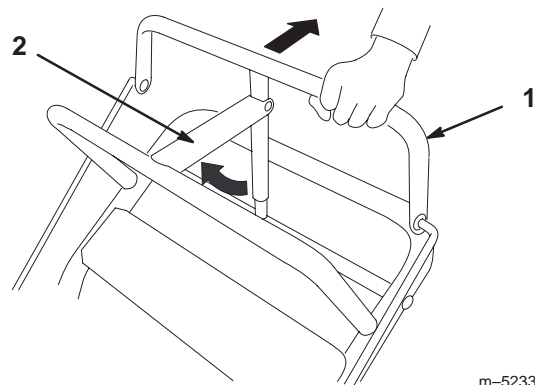

Figure 11
5. Check parking brake adjustment. Brake rods should be adjusted so parking brake lever is tight when swung into position against the fixed bar while pulling back on upper control bar (Fig. 11).